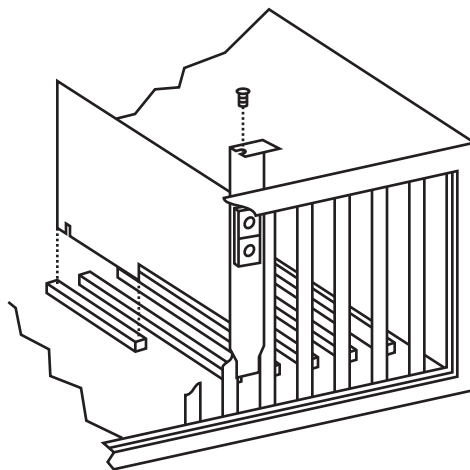

Figure 3-3. Place the NIC into the PCI 32-/64-bit slot.
5. Applying even pressure at both corners of the card, push the fiber card until it is firmly seated in the PCI 32-/64-bit slot. Make sure the card is securely seated. See Figure 3-3.